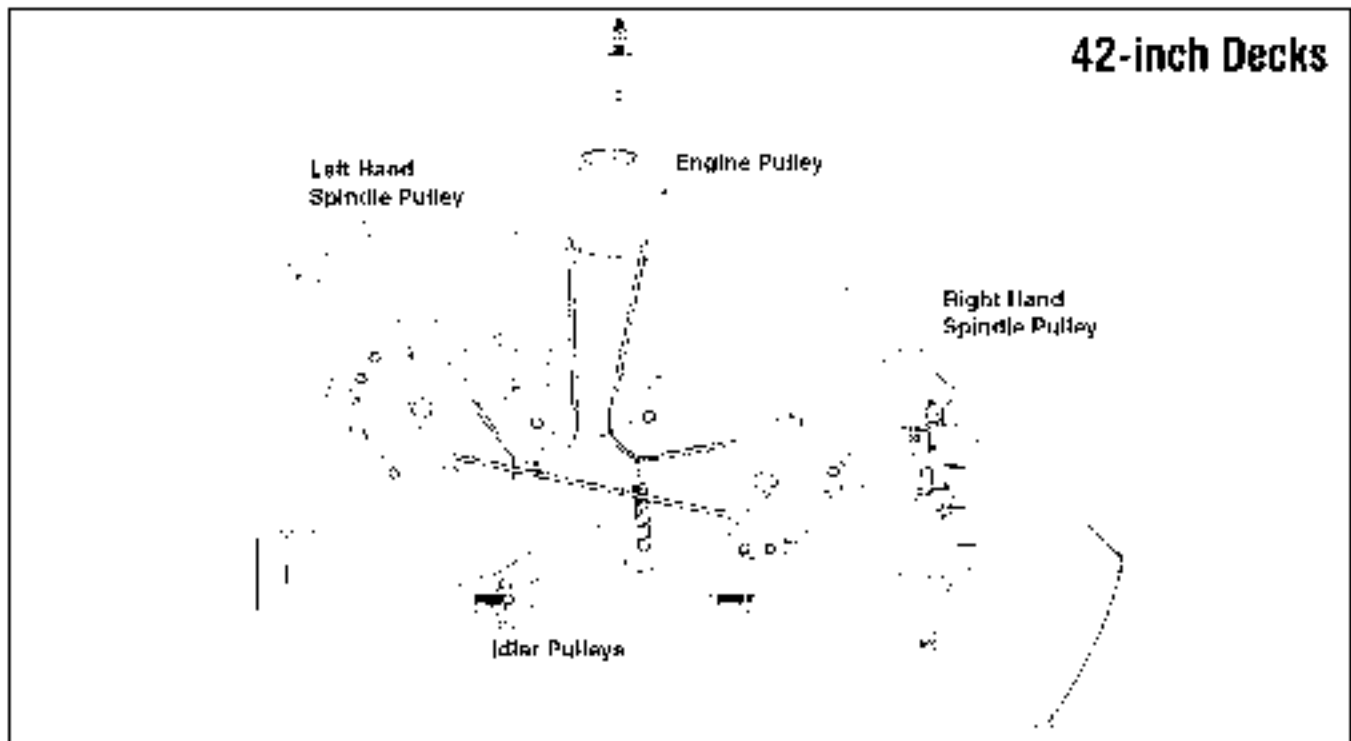
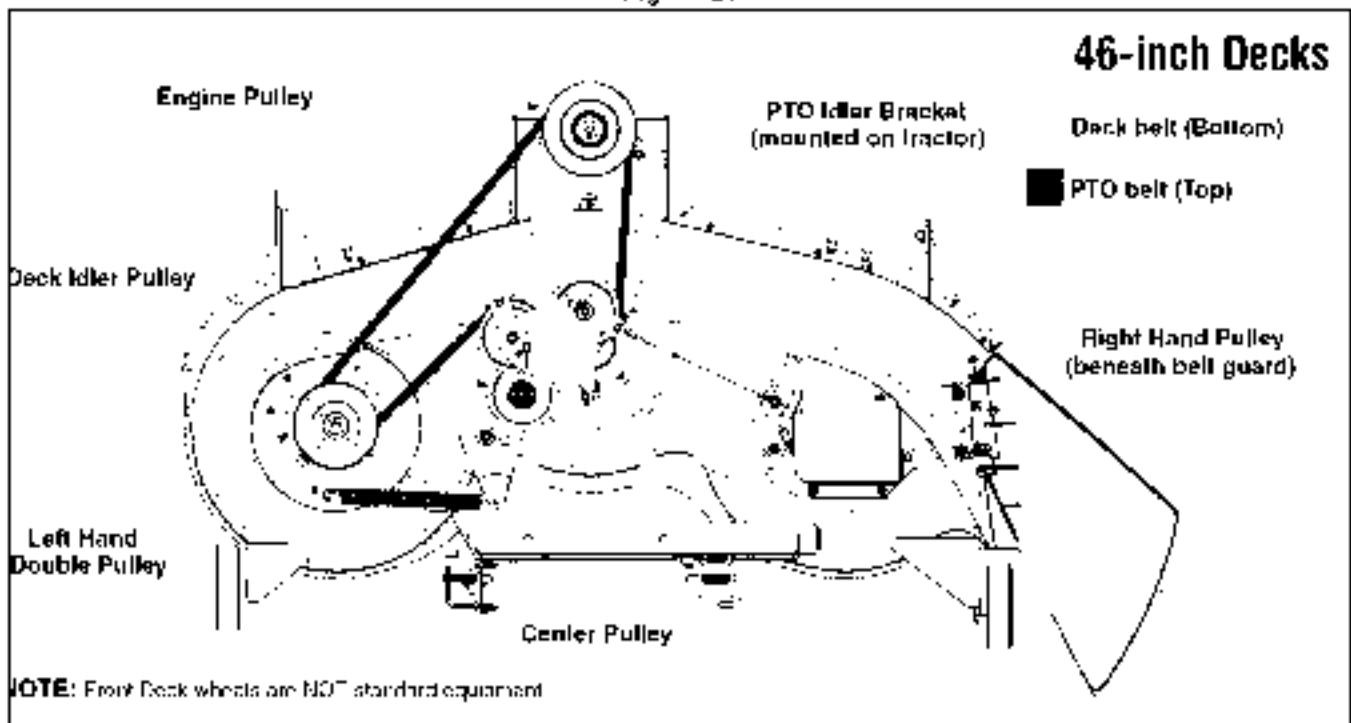

Figure 26
Figure 27
- Remove the PTO belt (46" Deck) or deck belt (42" Deck) from around the tractor's engine pulley and idler pulley(s). Refer to **Changing The Deck Belt & PTO Belt** and Figure 26 and Figure 27.
- Route the new belt(s) (**deck belt first - 46" deck**) as shown in Figure 26 and Figure 27.